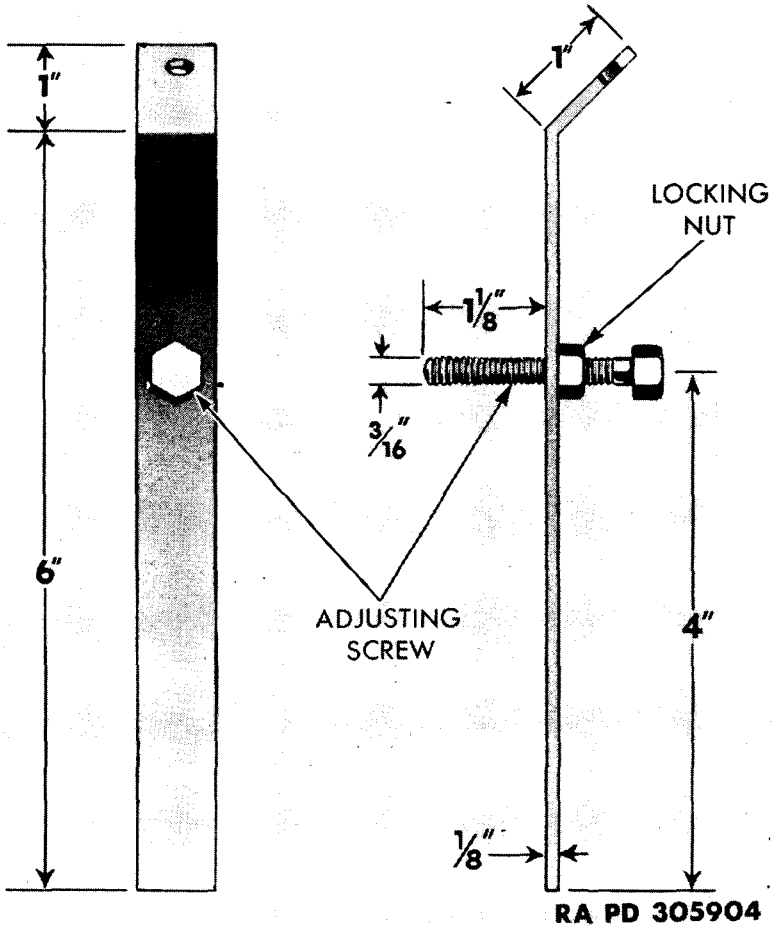

Figure 82—Gage for Clutch Adjustment
b. **Adjustment.** Adjust the clutch when the pedal free travel becomes $\frac{1}{2}$ inch or less. Adjust clutch, using common method with two six-inch scales, or with improvised gages (fig. 82).